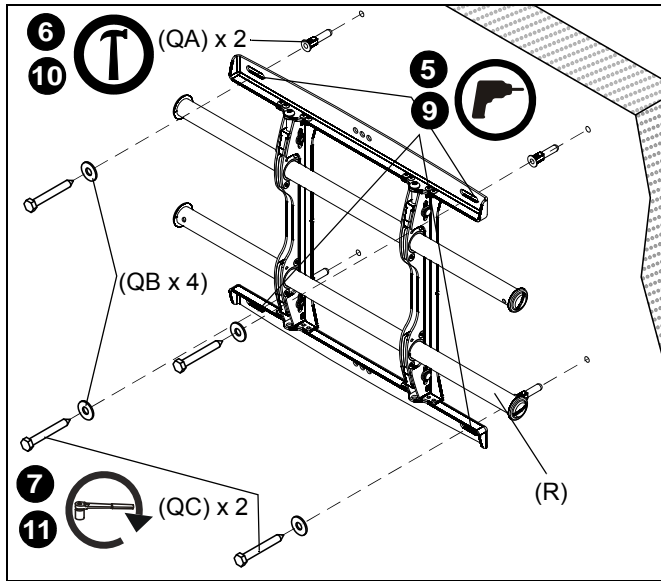

Figure 7
2. Line up the notches on mount (R) with center of screen marking to determine vertical center. (See Figure 7)
3. Measure up 7-1/2" (190.5mm) from the center point to mark location of the upper mounting slots. (See Figure 7)
4. Using a level, mark the wall through both upper mounting slots. (See Figure 7)
6. Install an anchor (QA) into each pilot hole using a hammer.
7. Use two 5/16 x 2-1/2" lag bolts (QC) and two 5/16" flat washers (QB) to attach top of mount to anchors in wall.
8. Mark the attachment points for the lower mounting slots. (See Figure 7)
9. Drill one pilot hole at each marking for lower mounting holes. (See Figure 7)
10. Install an anchor (QA) into each pilot hole using a hammer.
11. Use two 5/16 x 2-1/2" lag bolts (QC) and two 5/16" flat washers (QB) to attach the mount to the wall through the lower mounting holes. (See Figure 7)